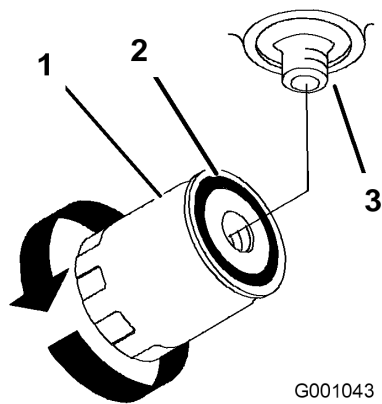

Figure 53
4. Locate filter under engine base and place drain pan under filter (Figure 53).
5. Remove the old filter and wipe the filter adapter gasket surface clean (Figure 53).
9. When the hydraulic filter is full, turn the oil filter clockwise until the rubber gasket contacts the filter adapter, then tighten the filter an additional 1/2 turn (Figure 53).